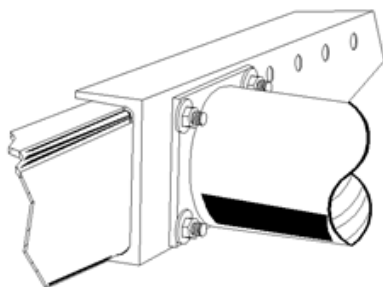

Fig. 5
4. Align one of the crossbar assemblies (C) to the bottom 3 sets of holes, of the legs (E) (Fig. 5). From the outside, of the leg extension, insert the 1 1/4" x 3/8" cap screws through the leg extension (D), leg (E) and crossbar (C). You will only be able to place one flat washer, with the lock nut, in these eight positions.